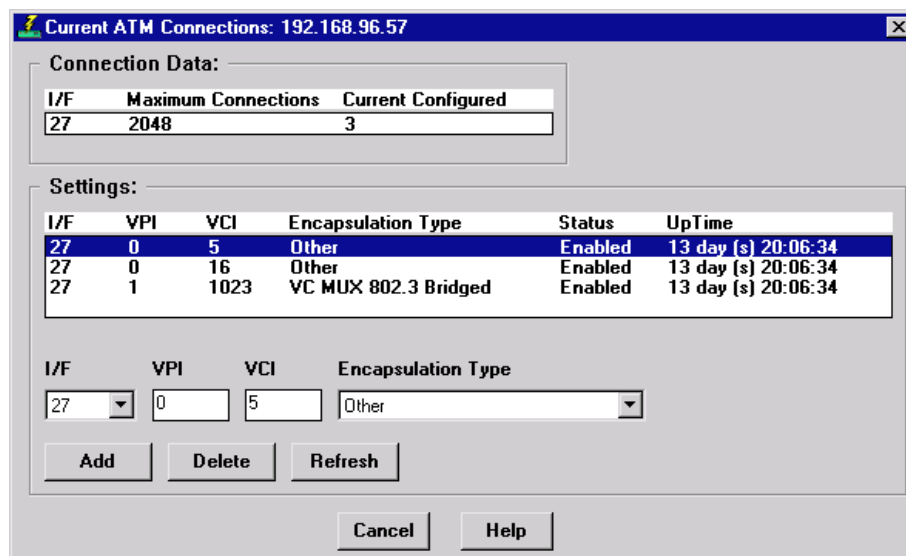

Figure 7-1. Current ATM Connections Window
2. Click on **ATM Connections**. The Current ATM Connections window, Figure 7-1, will appear.